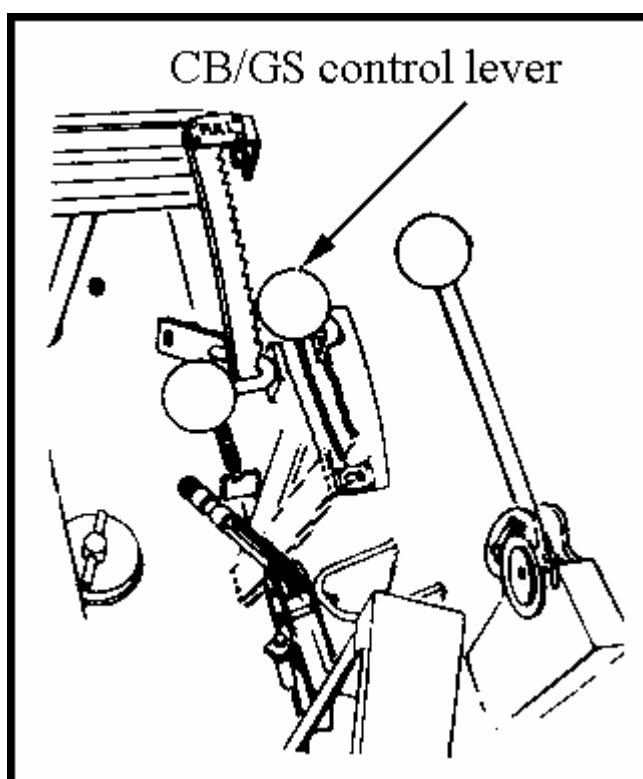

Figure 052-227-1233-1
2. Place the clutch-break (CB)/gear-steer (GS) control lever in the CB or the GS position (Figure 052-227-1233-1).